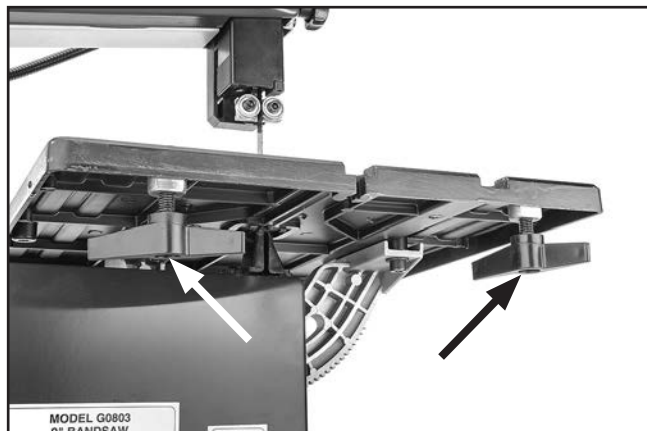

Figure 14. M6-1 x 16 fence rail knobs installed.
7. Thread (2) M6-1 x 16 fence rail knobs into table just enough so they will not fall out. Do not tighten yet (see **Figure 14**).